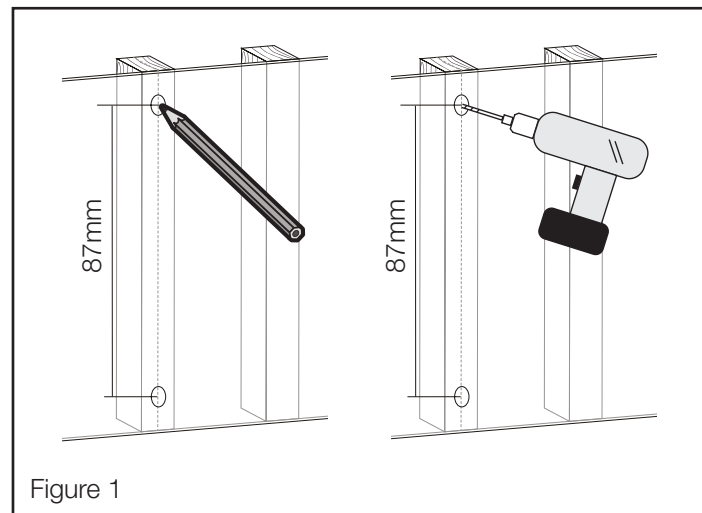

Figure 1
2. Mark 2 fixing holes over stud centres 87mm apart using the Wall Plate as a guide (see Figure 1).
3. Pre-drill holes to a depth of 40mm using a high speed 3mm drill bit. If installing in hardwood, larger diameter and deeper holes may be required (see Figure 1).